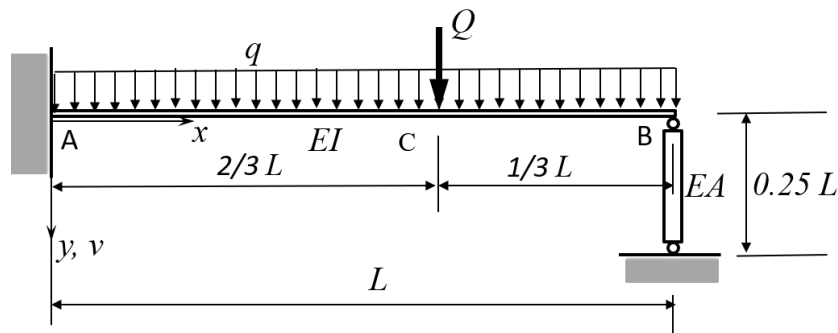

Figure 4
- (b). **Figure 4** shows a cantilever beam with length L subjected to a uniformly distributed load of intensity q and a vertical point load Q at point C which is located at a distance of $2/3 L$ from the fixed support A. One linear elastic bar with axial rigidity EA and length $0.25L$ is attached to the free end B. The following expression for lateral displacement field v has been suggested: